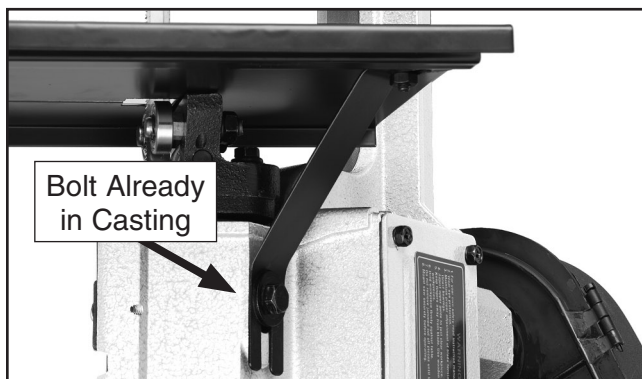

Figure 17. Table and bracket installed.
3. Install the table bracket shown in **Figure 17** with the bolt (already in the casting), the flat head screw, and the hex nut.